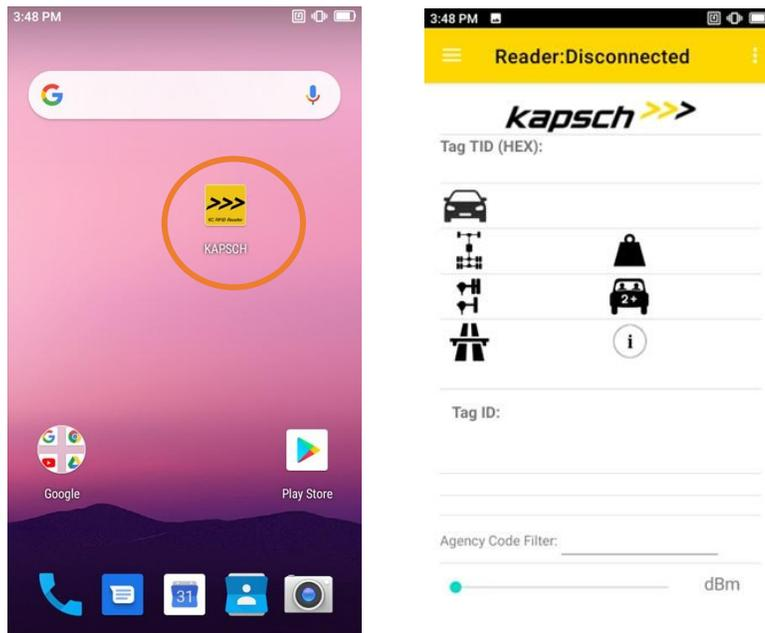

Figure 19 Kapsch 6C RFID Reader Application
1. After assembly is complete (see Section 3) press the power button on the Janam XT30 Display Unit. Swipe up from the bottom to unlock the Janam XT30 Display Unit. Start Kapsch App. (Figure 19).